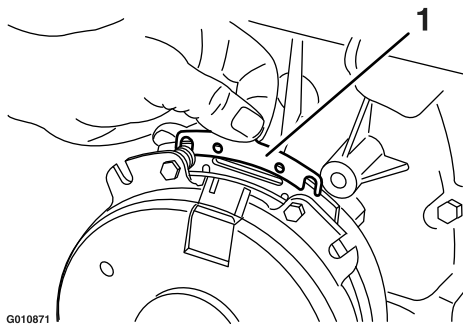

**Figure 84**
- A. Loosen both brake-mounting bolts 1/2 to 1 full turn as shown in Figure 84.